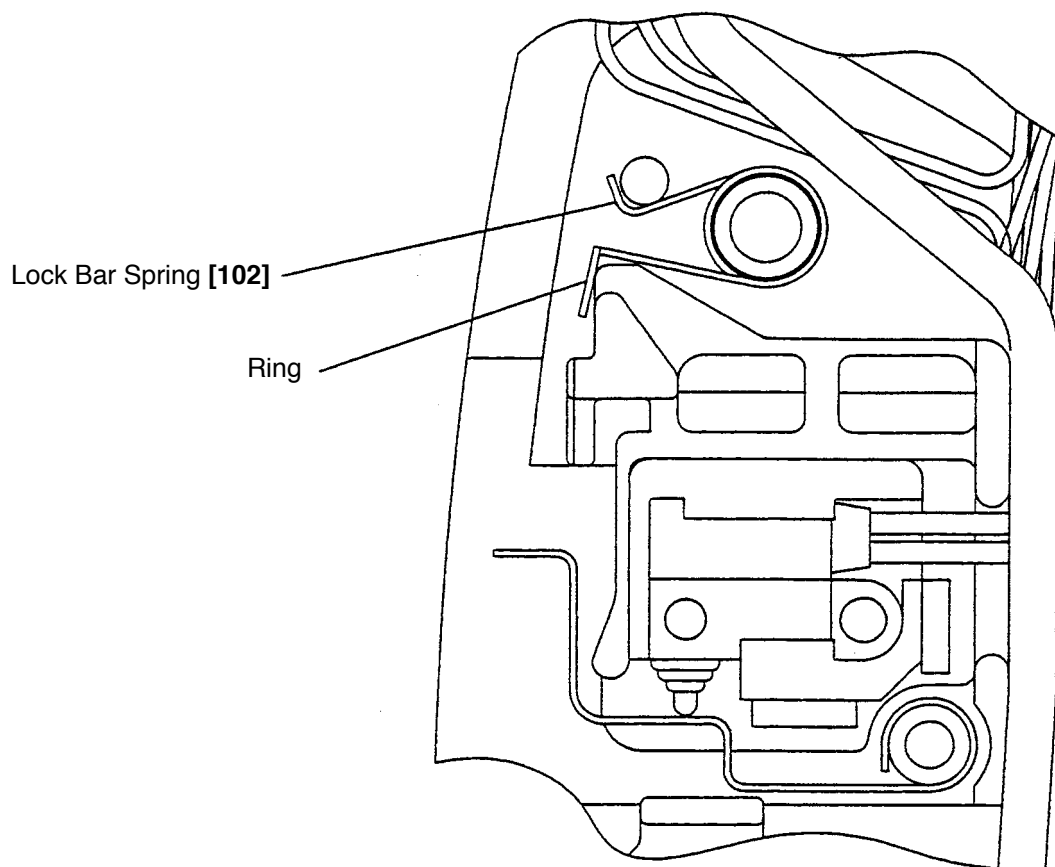

Fig. 58
- Mount the Wiring Cover [103] to Handle (B) [84] then hang the Chamber Lock Bar [100] on the ring of the Lock Bar Spring [102]. Hang the magazine plate on the claw of Handle (B) [84] (3 places) (Fig. 58).